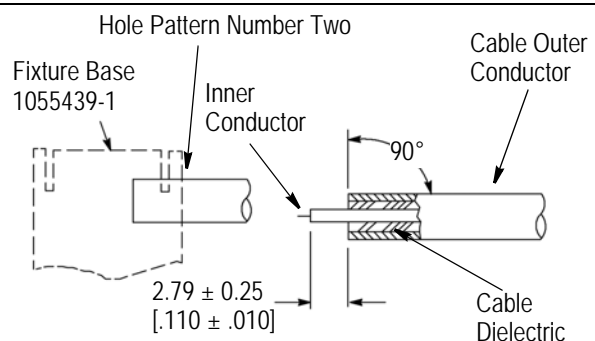

Figure 2
### 2.1. Preparing the Cable (Figure 2)
5. Trim the inner conductor to the dimensions shown in Figure 2.